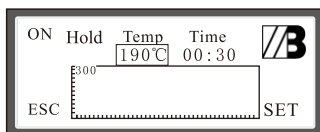
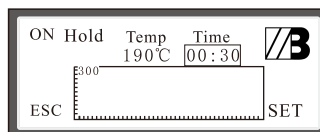

Fig. 11
Fig. 12
④. Press “SET” button to switch “SOLDERING” to highlighted state, and press “PAGE DOWN” button to switch to “HEAT PRESERVATION”. Press “SET” Button again to switch “TEMPERATURE” to highlighted state. Press “PAGE UP” button and “PAGE DOWN” button to conduct the setting of “TEMPERATURE” as shown in Fig.11. The heat preservation setting range shall be lower than the soldering temperature. Press “SET” Button again to switch to “TIME” setting to highlighted state as shown in Fig.12, and then conduct time setting.